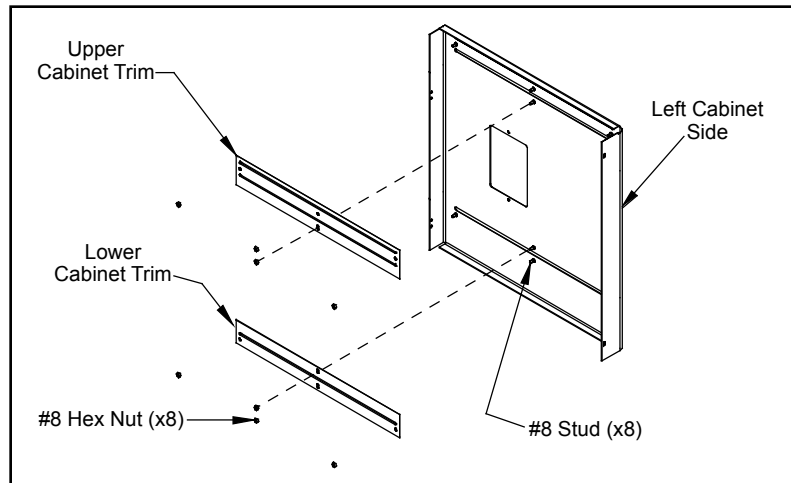

Figure 43: Right cab side with upper and lower cabinet trims.
Place the new trim pieces on their corresponding studs and finger tighten the #8 hex nuts (four (4) for each piece of trim). Refer to Figure 43.